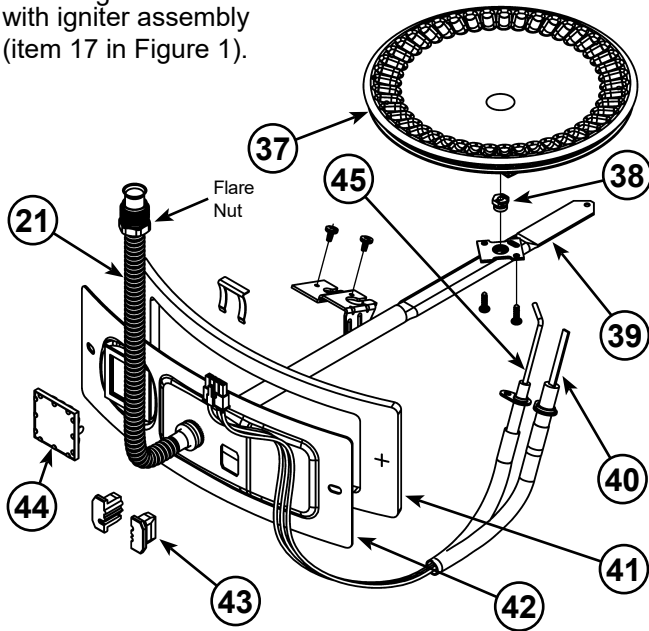
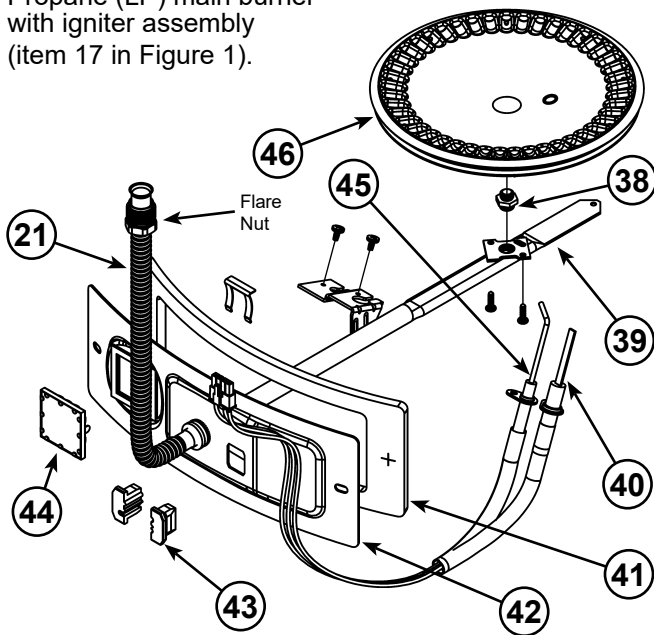
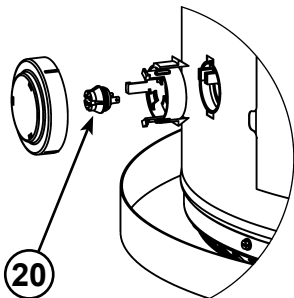
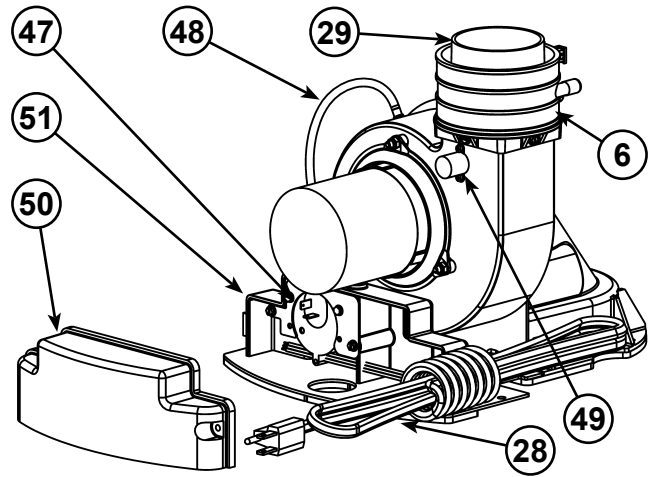

Figure 3.
Figure 4.
Figure 5.
Figure 6.
| 1 Vent Termination Elbow with Rodent Screen                  | 17 Manifold Door Assembly (behind outer door) (see Figure 3 (NG) or Figure 4 (LP)) | 36 *Thermal Expansion Tank (required for all closed systems) |
| 2 *Vent Pipe   | 18 *Floor Drain  | 37 Aluminum Burner (see Figure 3)                            |
| 3 *Vent Pipe Coupling (if required)                          | 19 *Metal Drain Pan  | 38 Gas Orifice (see Figure 3)                                |
| 4 CPVC Vent Pipe (5 ft. supplied)                            | 20 Flammable Vapor Sensor (under cover) (see Figure 5)                             | 39 Gas Manifold (see Figure 3)                               |
| 5 *CPVC Vent Pipe Elbow (long radius)                        | 21 Flexible Manifold Tube (see Figure 3)   | 40 Hot-Surface Igniter (see Figure 3)                        |
| 6 Gear Clamp (see Figure 6)                                  | 22 *Sediment Trap  | 41 Manifold Door Gasket (see Figure 3)                       |
| 7 T&P Valve  | 23 *Ground Joint Union (gas connection)  | 42 Manifold Door (see Figure 3)                              |
| 8 **Combo Heating System Supply Outlet (Optional)            | 24 *Main Manual Gas Shut-off Valve   | 43 Two Piece Grommet With Clip (see Figure 3)                |
| 9 Cold-Water Inlet Nipple/Diptube                            | 25 *Gas Supply*  | 44 Viewport (see Figure 3)                                   |
| 10 * Discharge Pipe  | 26 Baffle Assembly   | 45 Flame Sensor Rod (see Figure 3)                           |
| 11 Gas Control Valve/Thermostat (Honeywell)                  | 27 Rating Plate  | 46 Stainless Steel Burner (see Figure 4)                     |
| 12 Gas Valve Electronic Control Module And Cover (Honeywell) | 28 Blower with Power Cord (see Figure 6)   | 47 Air Switch (inside box) (see Figure 6)                    |
| 13 **Combo Heating System Return Inlet (Optional)            | 29 *Rubber Coupling (see Figure 6)   | 48 Air Tubing (see Figure 6)                                 |
| 14 ***Control Harness  | 30 *Inlet Water Shut-off Valve   | 49 Blower High Limit Switch (see Figure 6)                   |
| 15 Drain Valve   | 31 *Union (water connection)   | 50 Junction Box Cover (see Figure 6)                         |
| 16 Outer Gas Door  | 32 Hot-Water Outlet Nipple   | 51 Junction Box (see Figure 6)                               |
This device is located on the blower (see Figure 6, item 49) and limits the maximum temperature of the blower. If the blower temperature rises above the temperature setting, the switch opens causing the heater to shut down. The switch will auto reset once the temperature drops sufficiently.
This device, located in the junction box, monitors the air pressure produced by the blower. In the event that the exhaust venting becomes blocked or sufficiently restricted, the switch will shut the heater down (see Figure 6, item 47). If the water heater has not gone into a soft lockout condition, the heater will restart after the blockage is removed (see “Resetting The Heater Control”).